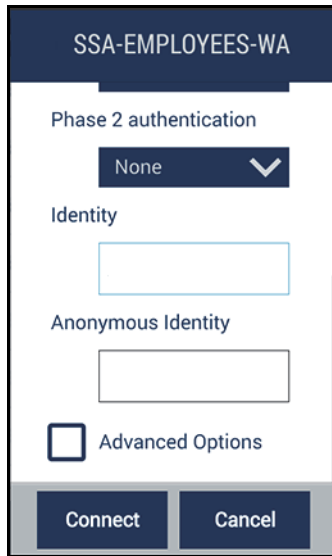

Figure 4-24 Authentication dialog box (part B)
5. Flick down to scroll down to the **Identity** box (see Figure 4-24 on page 136).